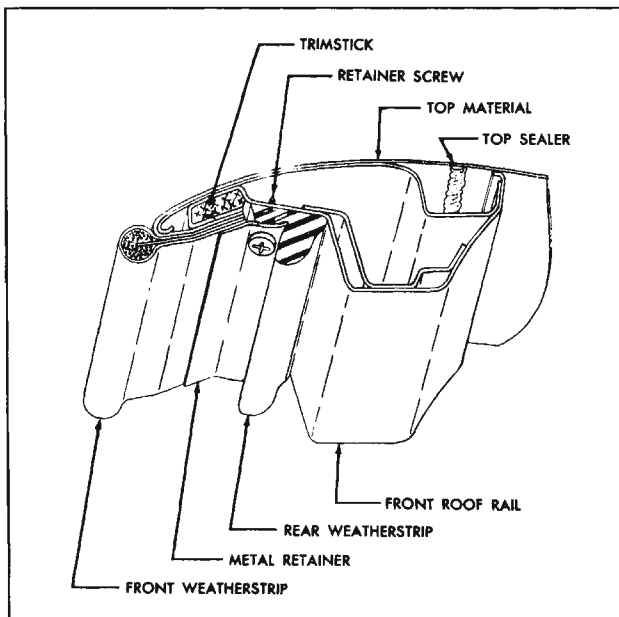

Fig. 16-109 Front Roof Rail Construction
3. At the front of body, raise front roof rail, remove retainers and front weatherstrips, detach top material from front roof rail. (Fig. 16-109)